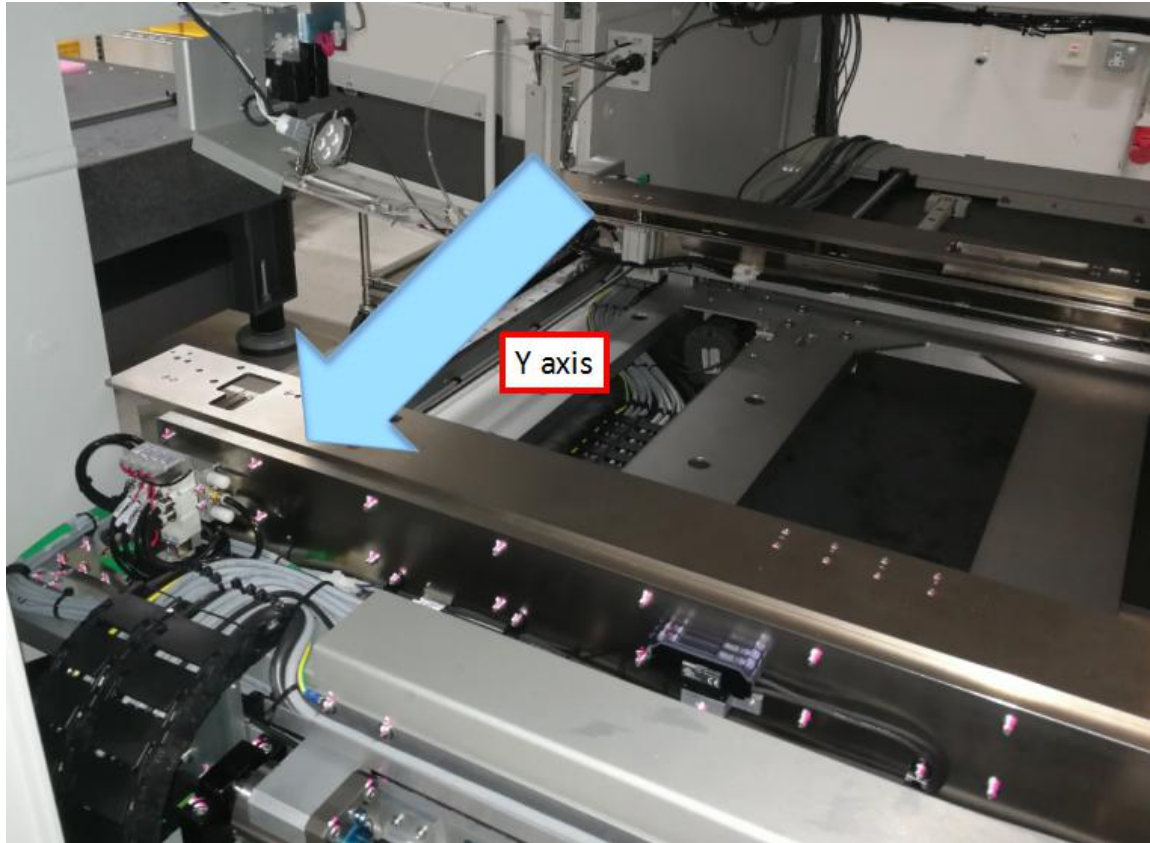
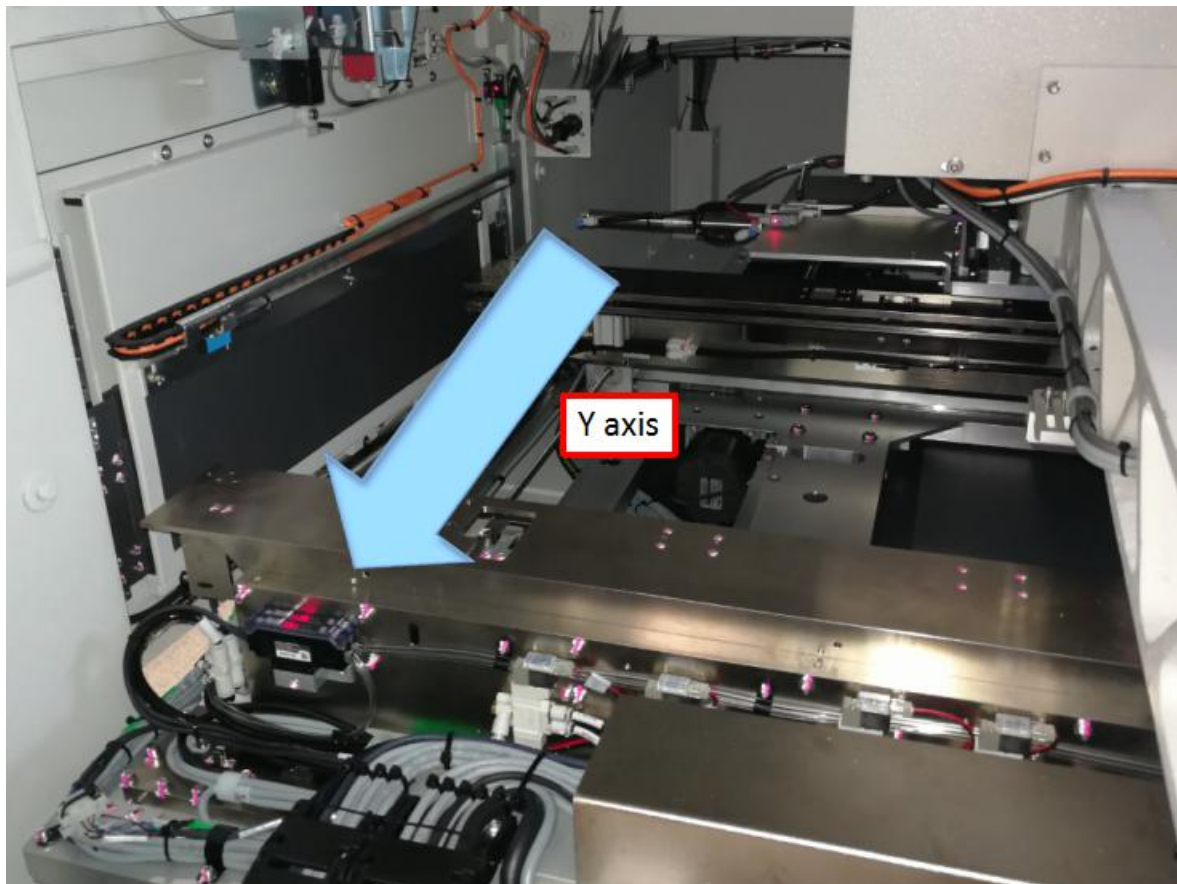

Figure 7 Y axis Minimum hard stop (V810 XXL)
Figure 8 Y axis Minimum hard stop (V810 S2EX)
8. Reset all MS0, MS1 and MS2 at the MS Summary (Motion Supervisor Summary) as shown in Figure 7. Once reset for all the axis, the actual position for MS0, MS1 and MS2 will become zero as shown in Figure 8.